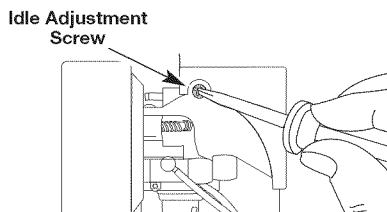

Fig. 27
The idle speed of the engine is adjustable. An idle adjustment screw is between the air filter cover and the engine starter housing (Fig. 27).
2. Release the throttle lever and let the engine idle. If the engine stops, insert a small Phillips in between the air filter cover and the engine cover (Fig. 27). Turn the idle speed screw in, clockwise, 1/8 of a turn at a time (as needed) until the engine idles smoothly.